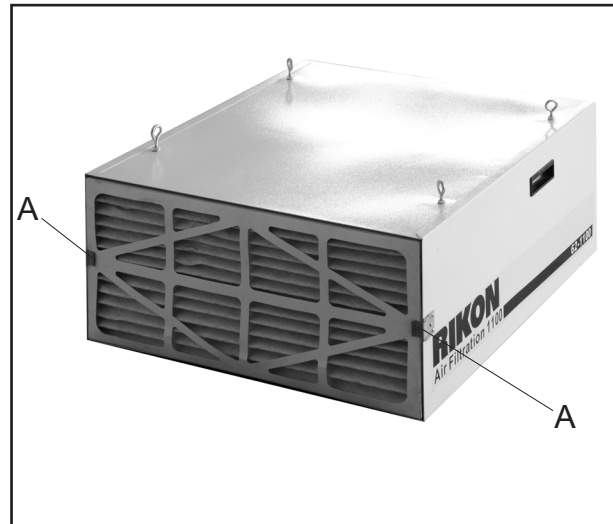
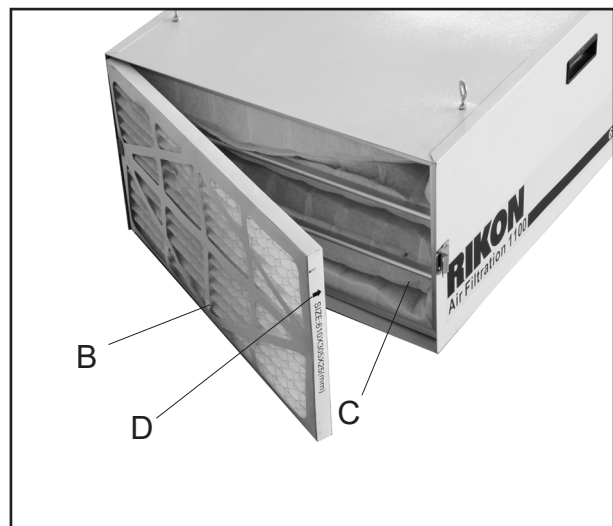

Fig.10
Fig.11
Change the filters (Fig.10 and 11)
1. Lift up the two clips Fig.10, (A) on the left and right of the cabinet and remove the outer filter Fig.11, (B) from the cabinet housing.
2. Pull the inner filter Fig.11, (C) out of the cabinet.
4. Install a new outer filter. The arrow on the outside of the filter indicates the proper direction to insert the filter into the cabinet. Fig.11, (D)
5. Lock the clips Fig.10, (A) on the left and right of the cabinet.